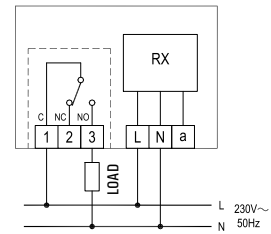
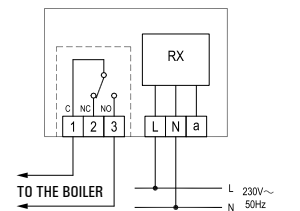
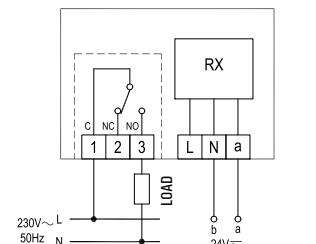

Fig. 7
Fig. 8
Fig. 9
- 6 Make the electrical connections according to the most suitable wiring diagram (see Fig. 7 - 8 - 9 and the paragraph "electrical connections").
The device can be powered at 230V~ or 24V~. Terminals L and N supply the receiver at 230V~ and must be connected to mains with neutral to terminal N. Alternatively connect the power supply to terminals a and N to power the device at 24V~. Terminals 1, 2 and 3 are the voltage free SPDT relay contacts of the output. In Fig. 7 and 9 is shown how to connect a load (eg. valve) which will be powered when the output is activated, using the NA output of the relay. In Fig. 8 is shown how to connect the receiver to the "room thermostat" input of a boiler. Follow this diagram when you have to replace the wired boiler thermostat with a radio thermostat or programmable thermostat. The output, terminals 1 to 3, is voltage free and insulated with reinforced insulation towards the other circuits of the receiver. Therefore, the receiver can be supplied with SELV low voltage (24V~), while controlling a high voltage load (230V~), as shown in Fig. 9. In this case 24V~ SELV and 230V~ cables must be separated complying with current standards.
Number of automatic cycles:	100000 (diagrams Fig. 7, 8, 9)